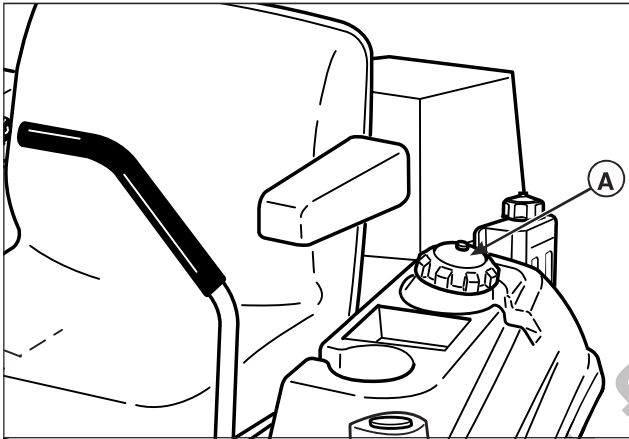

Figure 13. Fill Fuel Tank
1. Remove the fuel cap (A, Figure 13).